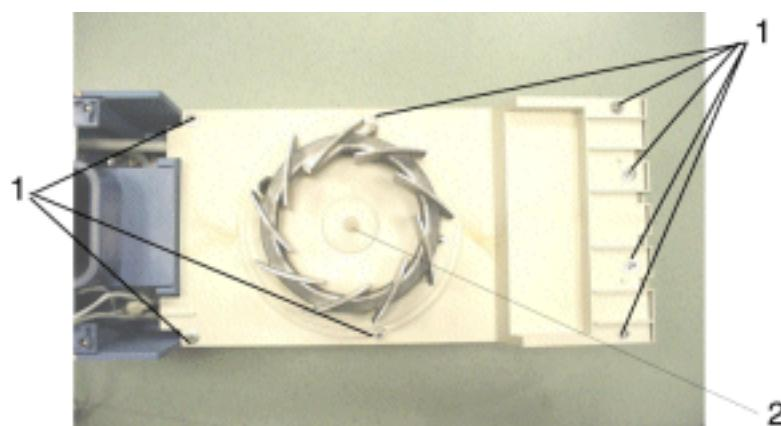

Fig. 213 Front view of the air heater
6. Carefully remove rubber sleeve (2) from shaft, see Fig. 213.
7. Remove screws and washers (1), see Fig. 213.